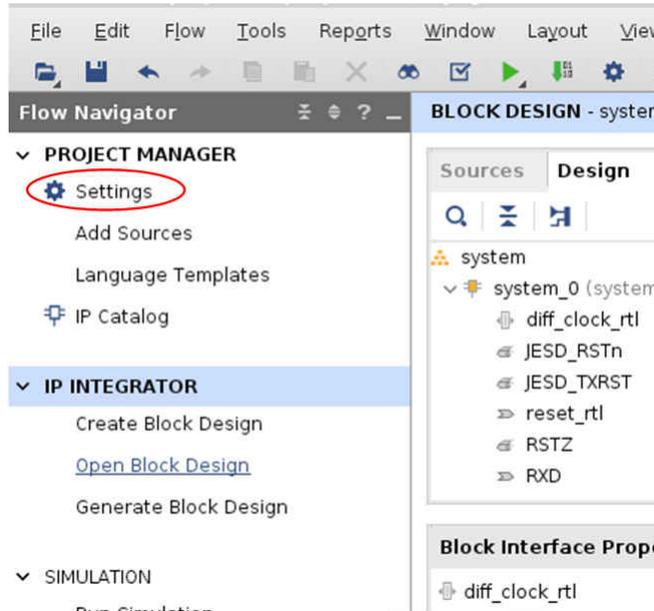

Figure 6-1. Project Manager Settings
1. Open the *Project Manager* menu and click *Settings* (see Figure 6-1).